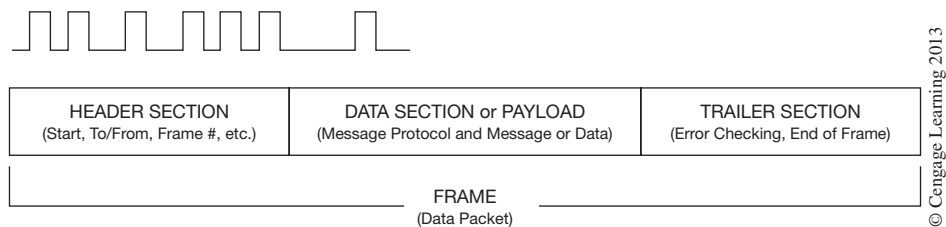

Figure 20–17 Basic Structure of a Data Frame
- **Frame**—A *frame* is a data link layer packet that contains the header, data, and trailer information required by the physical media. That is, network layer packets are encapsulated to become frames. A typical frame consists of a header section, a data section or payload, and a trailer section. A frame refers to the structural container of a packet. In most cases, a frame as outlined above is the equivalent of a data packet (see Figure 20–17).